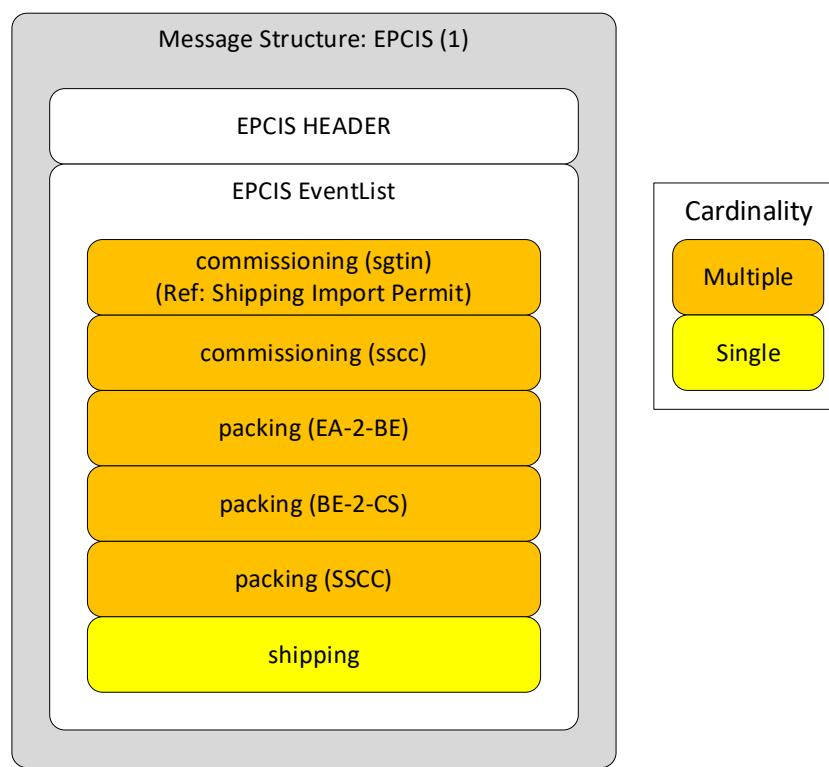

Figure 4 Importation EPCIS Message Structure
The order of the aggregation events must follow the top to bottom sequence shown in Figure 4.
- 6. All events in EPCIS message must be sorted in chronological order and this chronological order must follow the top to bottom sequence of the events in the event list shown in Figure 4. The earliest event time must be the *commissioning* events.